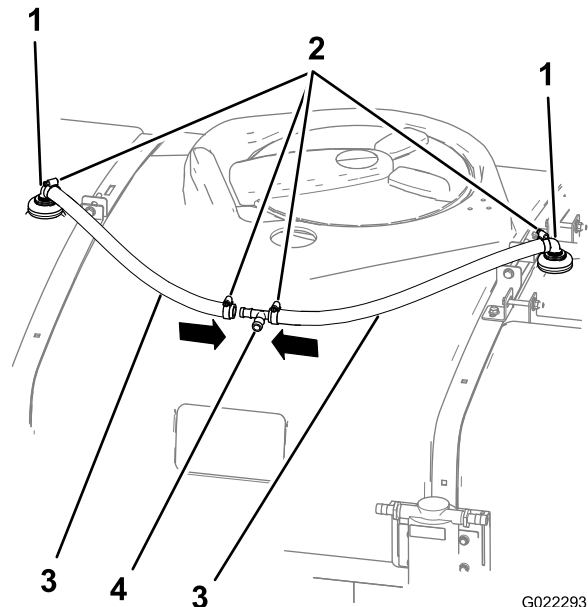

Figure 10
1. Attach a 61 cm (24 inch) hose to each of the previously installed 90° barbed fittings in the nozzle assemblies using 2 hose clamps (Figure 10).
2. Attach the loose ends of the hoses to the T-fitting with 2 hose clamps (Figure 10).